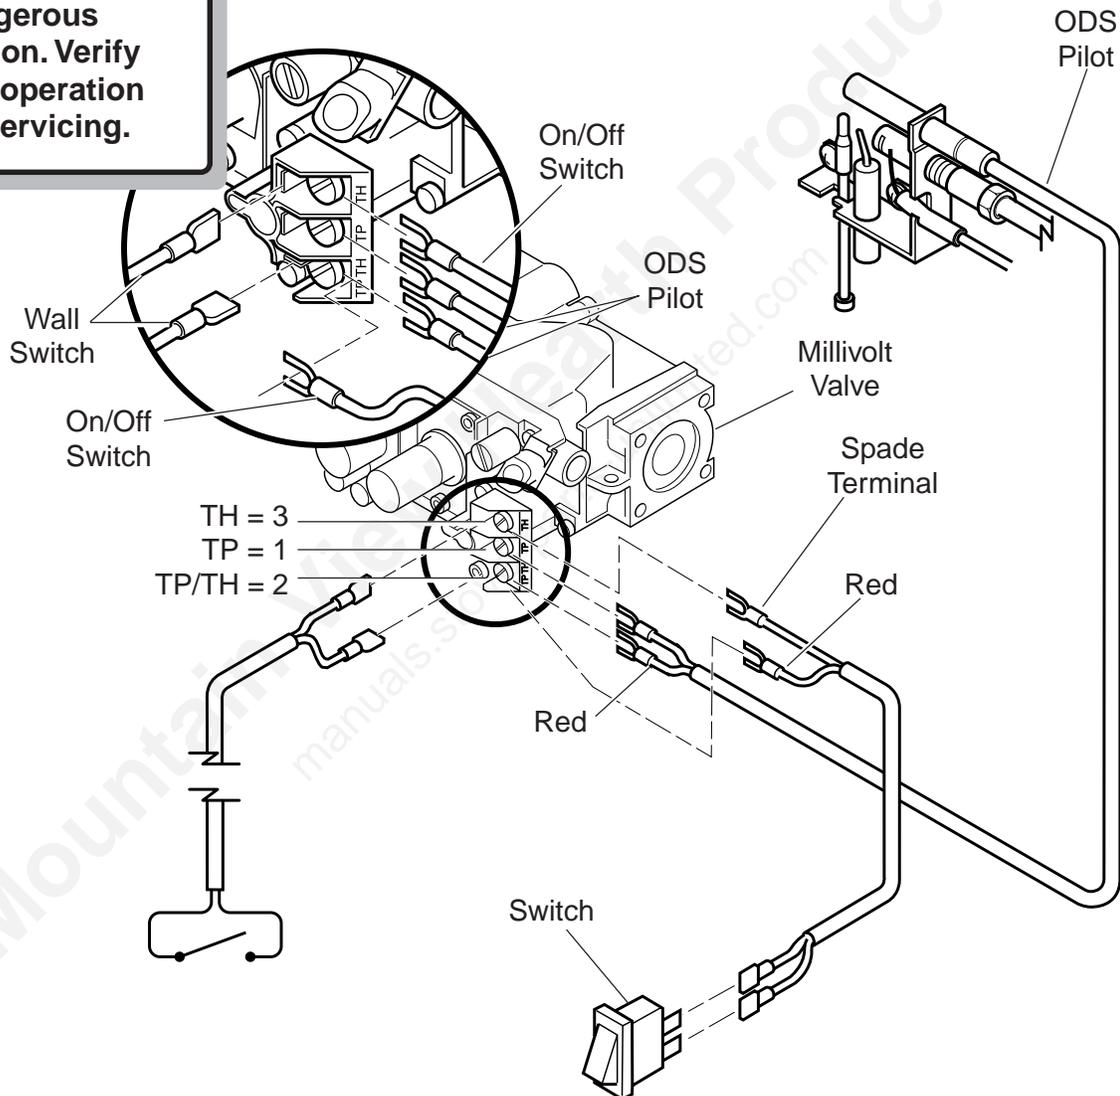

Figure 19 - Wiring Diagram
5. Connect the connectors to the two .25" male connectors located on the left side when facing the unit (See Figure 19, page 21). Do not let wire touch grate or burner.